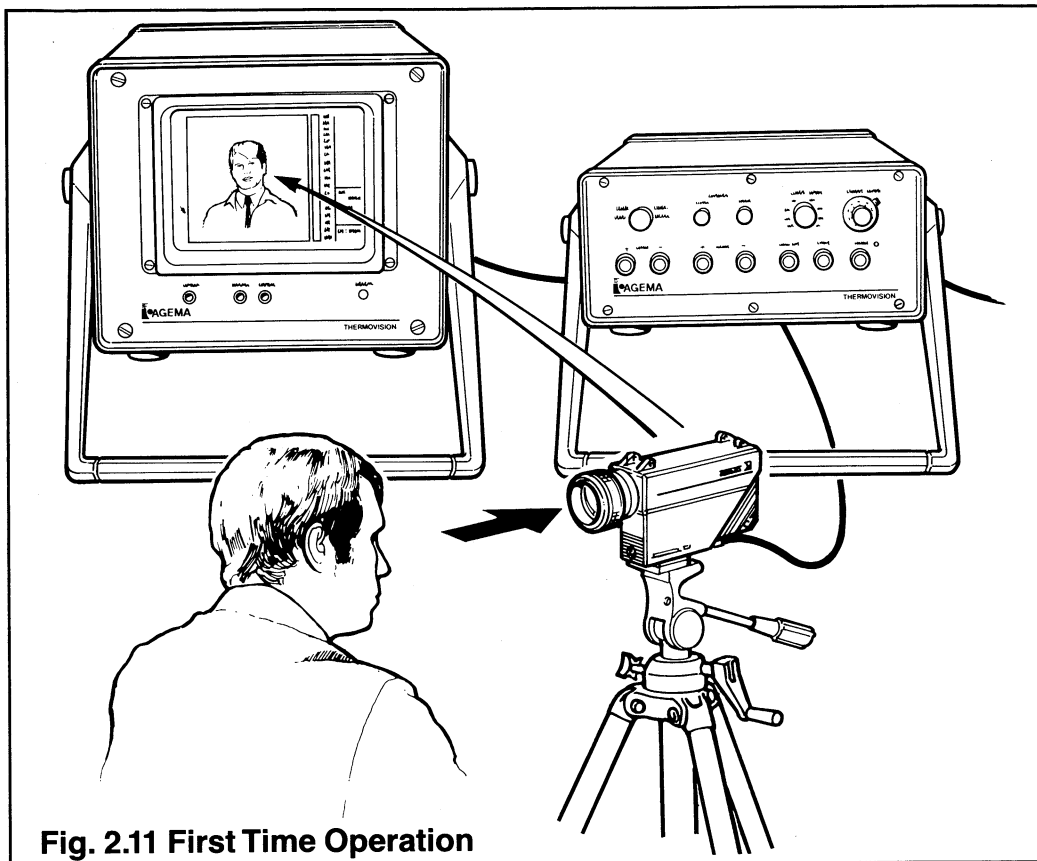

Fig. 2.11 First Time Operation
- (g) Point the scanner at a test object, e.g. a person's face. (Fig. 2.11).